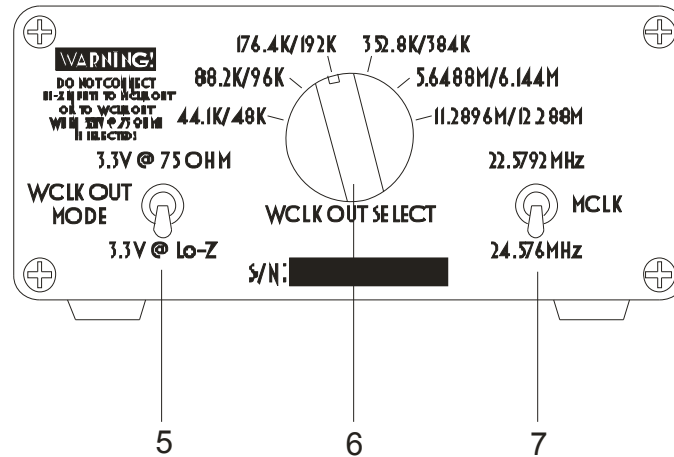

Figure 2
**6) WCLK selector.** This rotary switch allow for selecting between the various WCLK and “super clock” frequencies that can be obtained at the WCLK output. Each position selects a pair of values, the effective selected value depending on the setting of the MCLK selector (n°7, please read below). As an example, to obtain 192kHz, select position “176.4K/192K” and set the MCLK switch to the lower position, as in Figure 2.